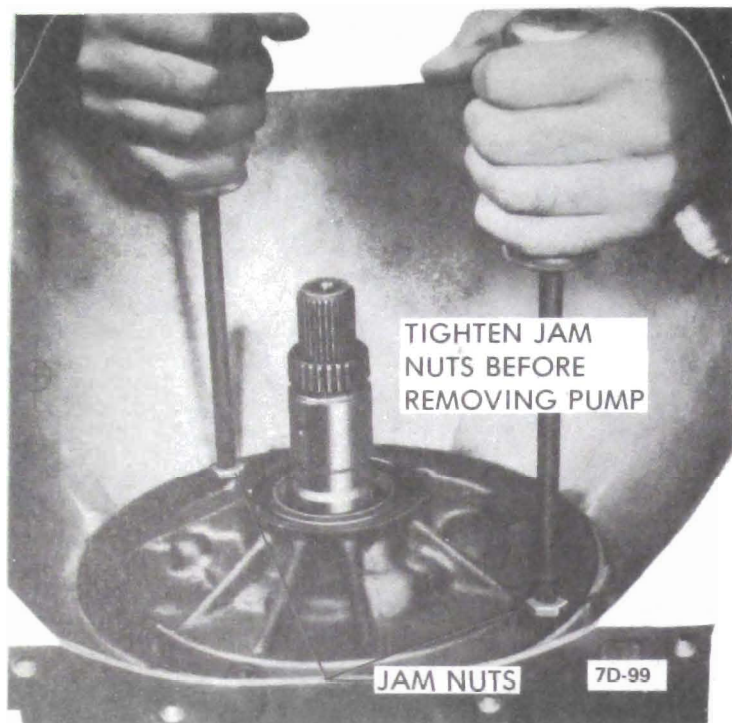

Figure 7D-99
3. Install threaded slide Hammers, J-7004, into bolt holes in the pump body, tighten jam nuts and remove pump assembly from case. See Figure 7D-99.